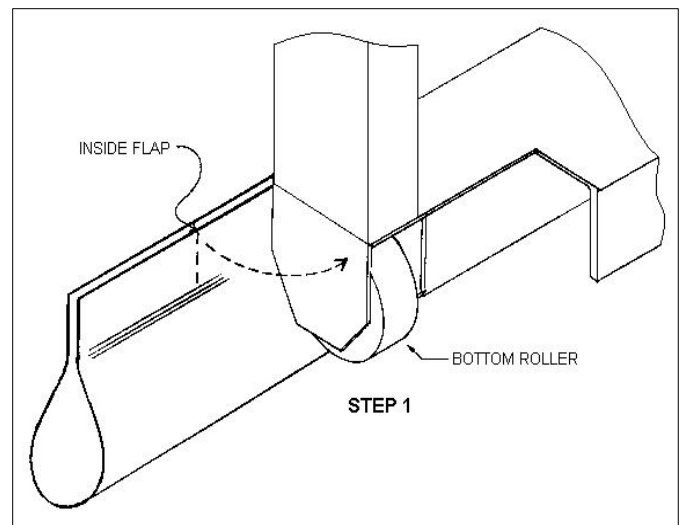

Figure 83 Sealing lower edge of door
3) Capping the ends. In order to seal ends of door at bottom it will be necessary to fold the seal as shown in **Figures 83, 84, 85, & 86**, steps 1 through 4 **Pages 47, & 48**. This will give an excellent bottom seal on the bottom ends of door. If done properly light will not even